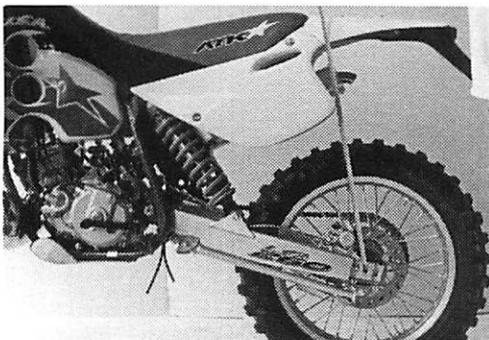

Figure 5.3
**Free Sag: Acceptable Range: 18 - 25 mm (Figure 5.3)**
Once again remove the motorcycle from the stand. With the motorcycle on flat ground compress the rear suspension a few times to allow the suspension to settle to its natural position, then repeat the previous measurement from axle to seat bolt (Figure 5.3). The difference between this value and the unweighted distance is the Free sag.